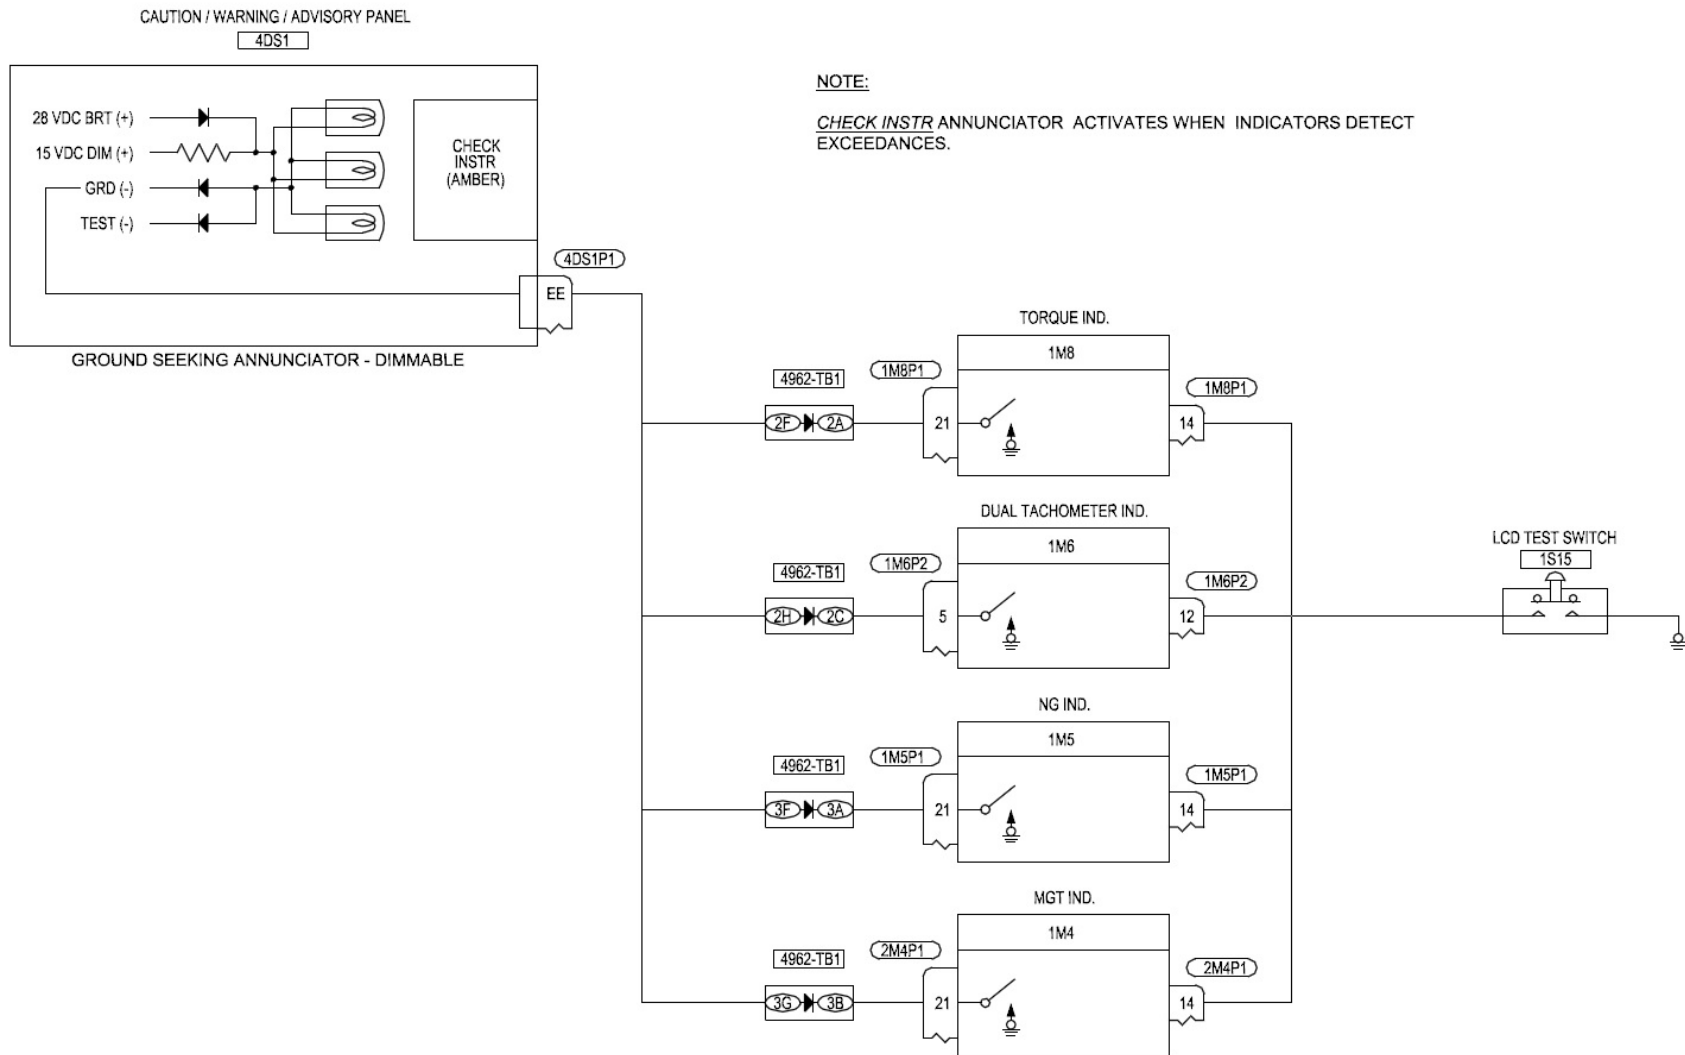

Figure 96-77: Check Instruments (CHECK INSTR) Annunciator Circuit – Simplified Schematic
3. Locate and disconnect the engine chip detector connector P2 from the chip detector. Refer to Figure 96-76 for S/N 53197 only or Figure 96-77 for all other S/N.
INSTR) annunciator circuit simplified schematic (Figure 96-77).